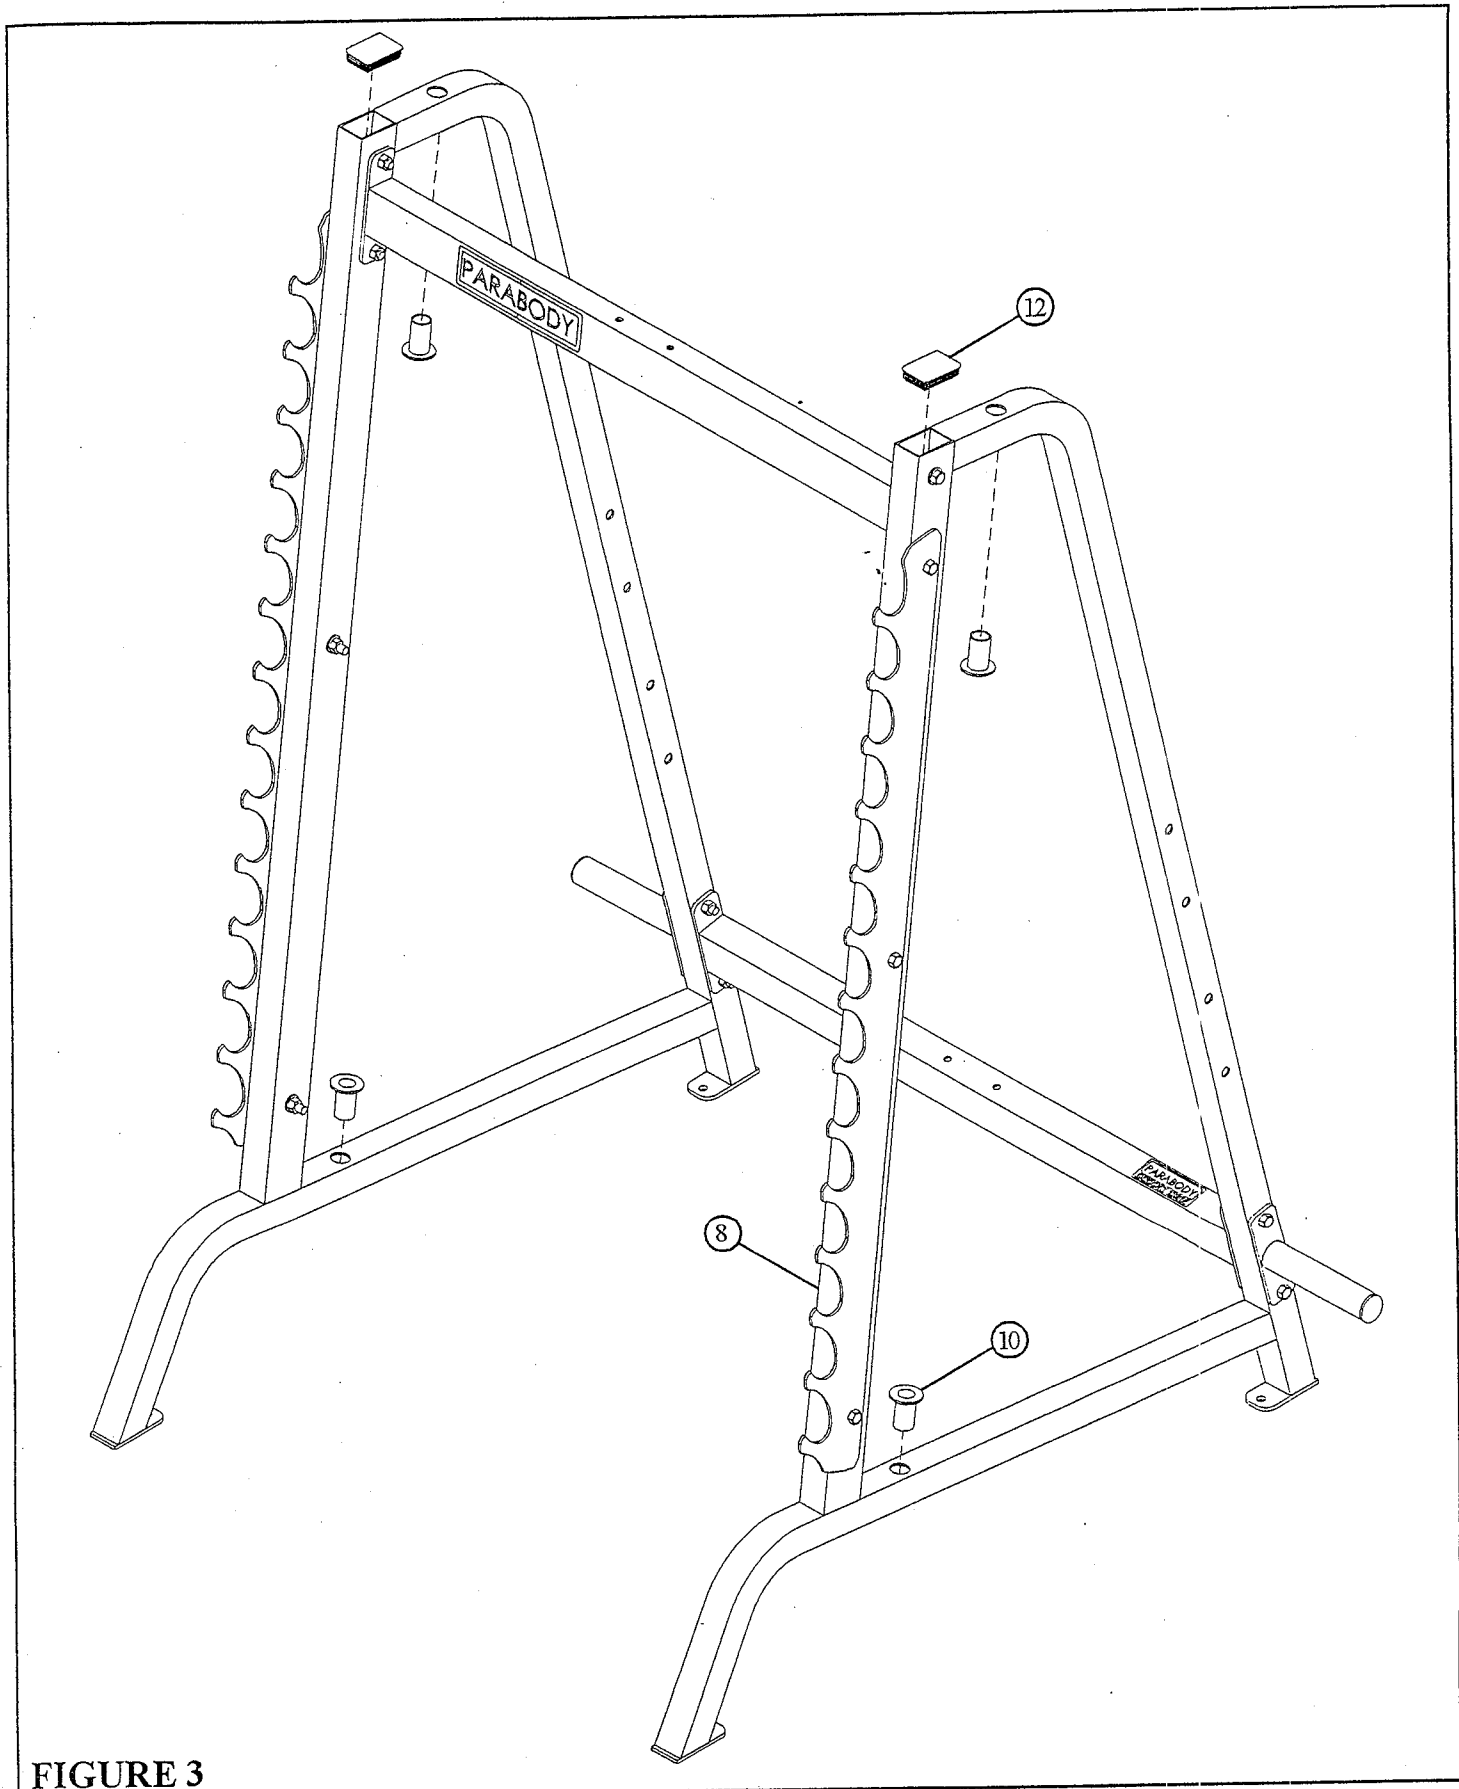

FIGURE 3
- Insert two 3 X 2" END CAPS (12) into the ends of the UPRIGHT FRAMES (8) as shown in FIGURE 3.
- Insert four GUIDE ROD BUSHINGS (10) into the UPRIGHT FRAMES (8) as shown in FIGURE 3.